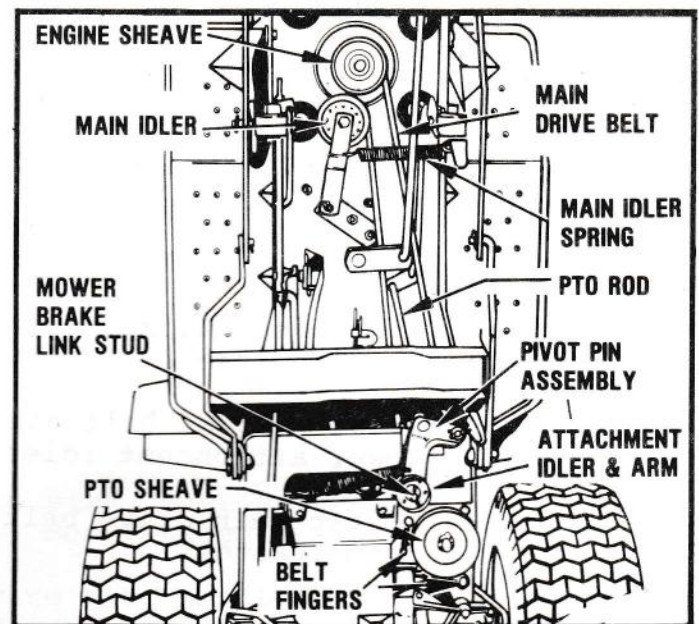

FIGURE 6
1. Loosen or remove the three fasteners holding spindle housing and belt fingers near PTO sheave and rotate fingers away from PTO Sheave. See Figure 6 and 7.
1. Lower the mower. Remove the hairpin cotter and washer from the stud on the attachment idler (Figure 6) and disconnect the mower brake link.